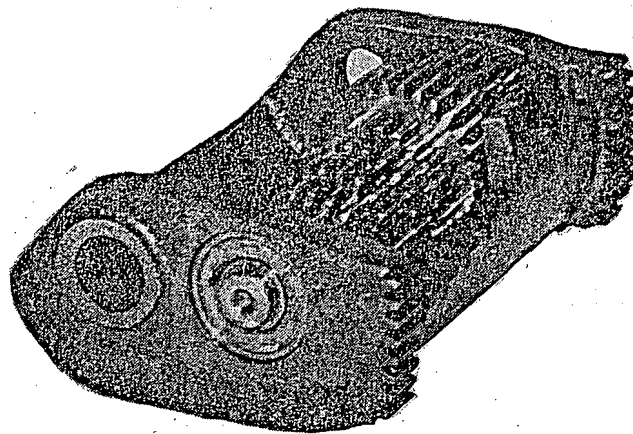

Figure 22 No. OQ-65 Cradle Assembly
11. Place OQ-65 cradle assembly in gear box, fitting the OQ-52 spacer between cradle and righthand wall of gear box, in line with hole through which OQ-2 shaft passes. See Figure 22.